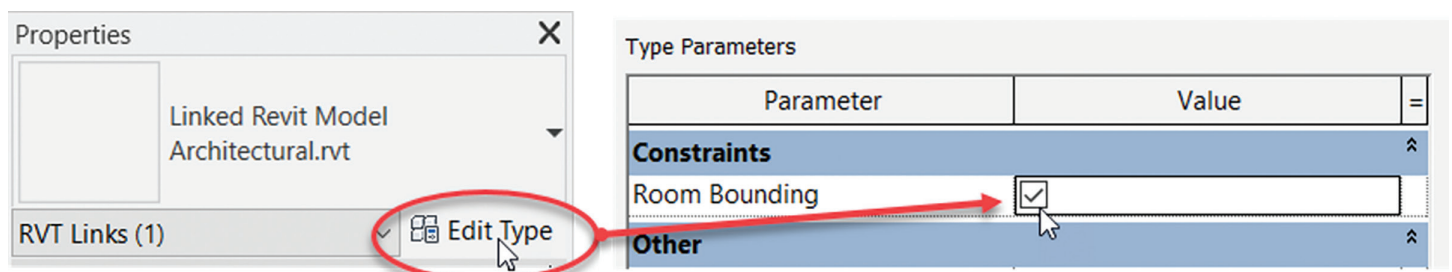

Figure 1
3. Check the box for Room Bounding as shown in Figure 1.